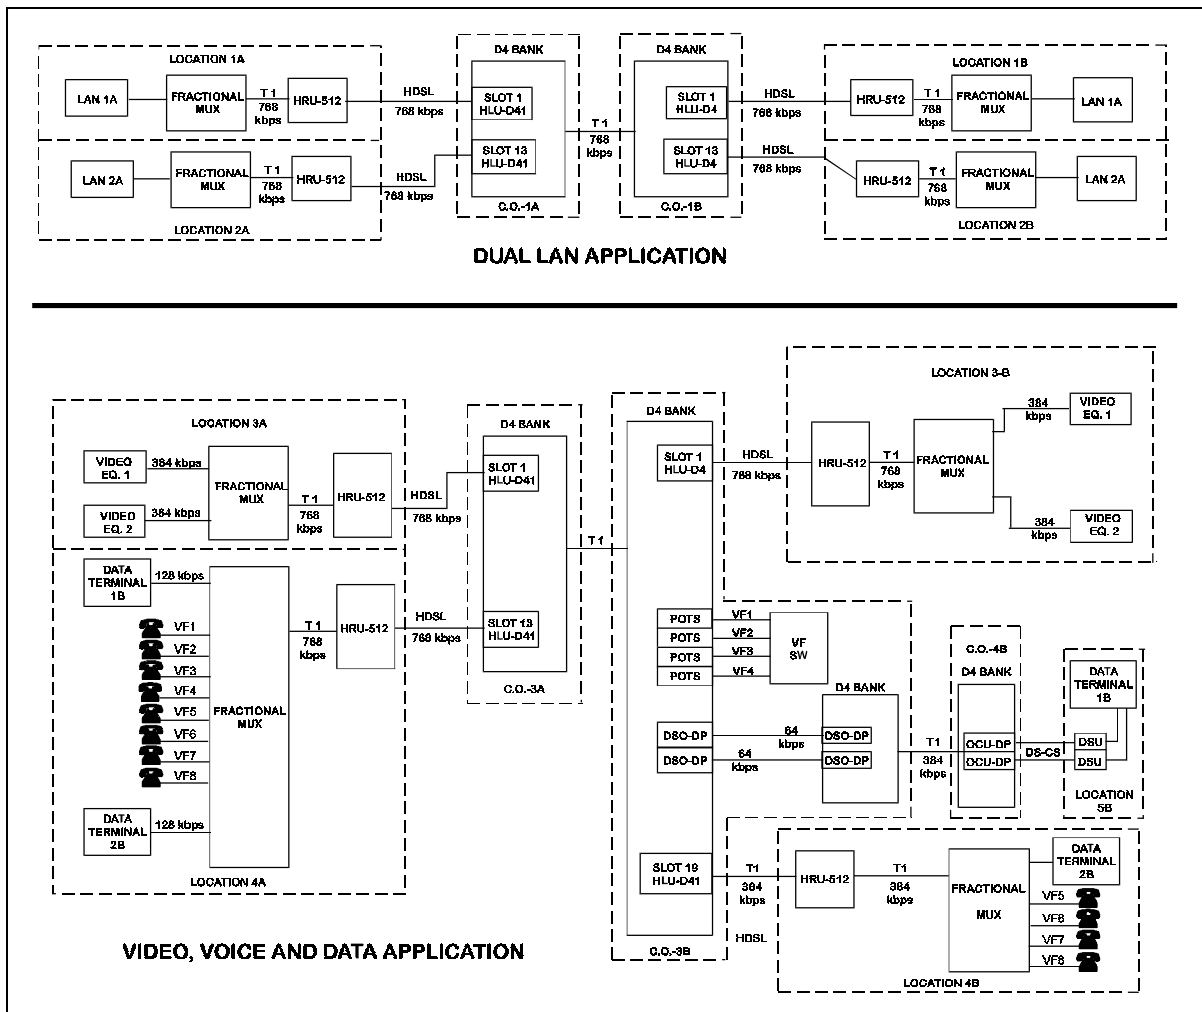

Figure 2. Typical applications of the HLU-D41 fractional T1 card.
2.04 See Figure 2 for typical applications with the HLU-D41 functional T1 card.